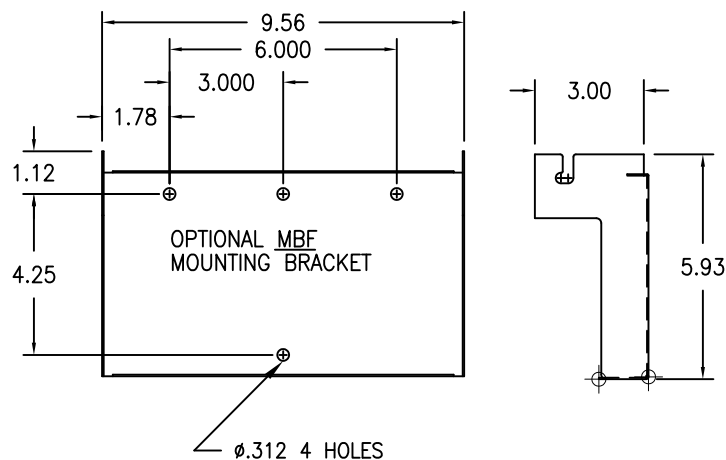

FIGURE 2
6. Mount cabinet to wall or use optional mounting bracket (MBF). (See Fig. 2 on page 2)